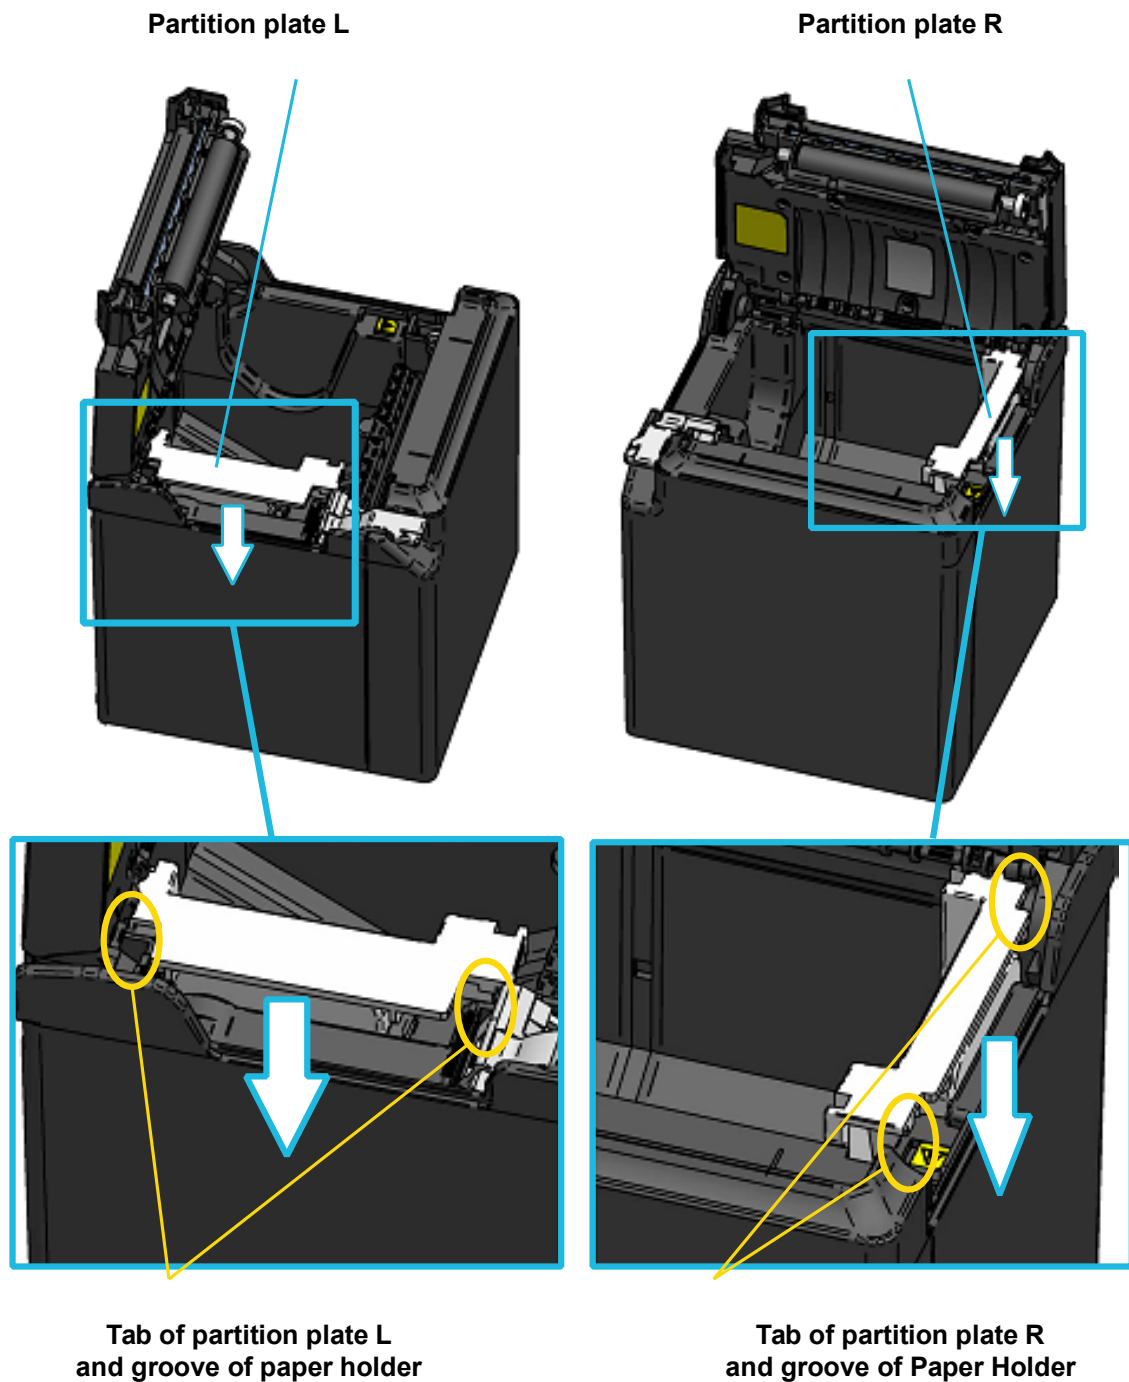

Figure 14-3 Partition Plate Installation (3)
- (5) Slide down the partition plate L and the partition plate R along the inner wall of the paper holder in the direction of the arrow in Figure 14-3. Insert the partition plate L and the partition plate R until the tabs (2 on each) on the upper are fixed in the groove on the paper holder.